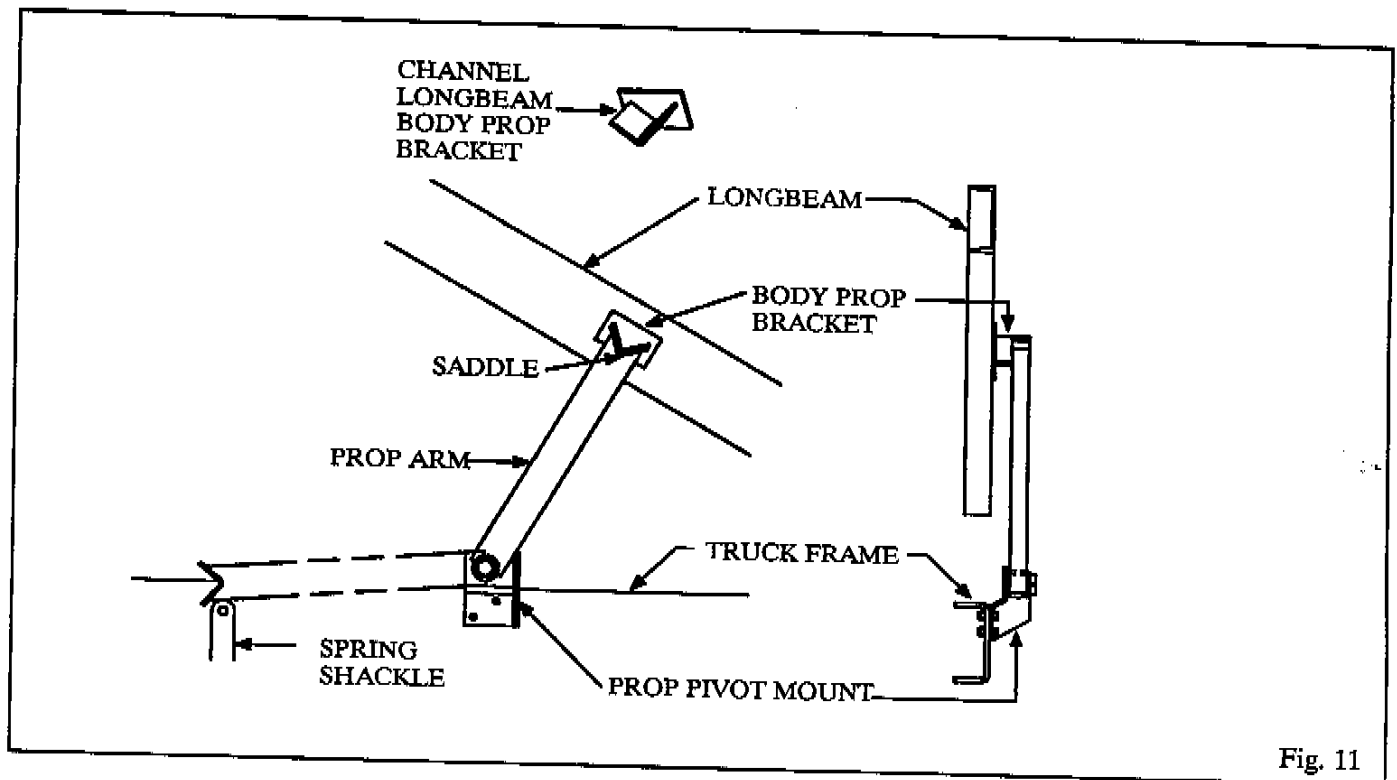

Fig. 11
3. Place the longbeam bracket assy in the body prop saddle. Raise or lower the body as needed to position the bracket on the outside of the longbeam where it will not interfere with the body prop when it is in the stored position and the body is down. Securely weld this bracket assy to the body (See Fig. 11.)